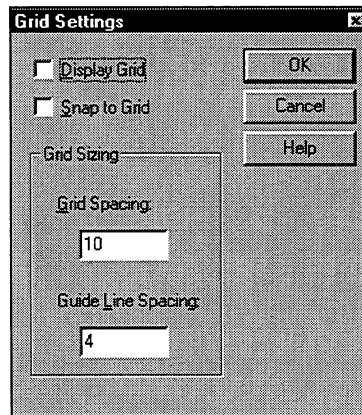

Figure 6-21. Grid Settings Dialog Box
*SoftScreen* automatically displays a grid on the development system screen to help in positioning shapes (this grid does not display on the run-time engine). To change the grid default settings, select the Grid command on the View menu or the Grid button. The Grid Settings dialog box opens, as shown in Figure 6-21.
1. Select the Grid command on the View menu or the Grid button to open the Grid Settings dialog box (see Figure 6-21).